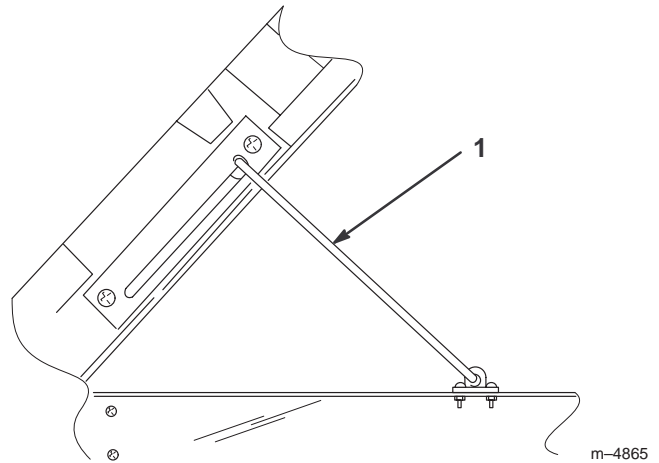

Figure 12
3. Raise the bed to its full height; then lower it slightly to engage the prop rod (Fig. 12).